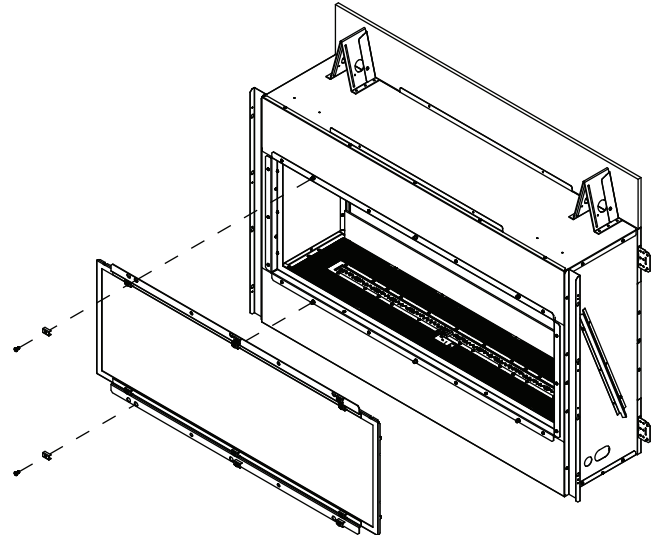

Figure 6
10. Install the inner glass frame assembly onto the inner glass assembly frame using the 1/4-20 stainless steel bolts and stainless steel brackets. See Figure 6 and 7.